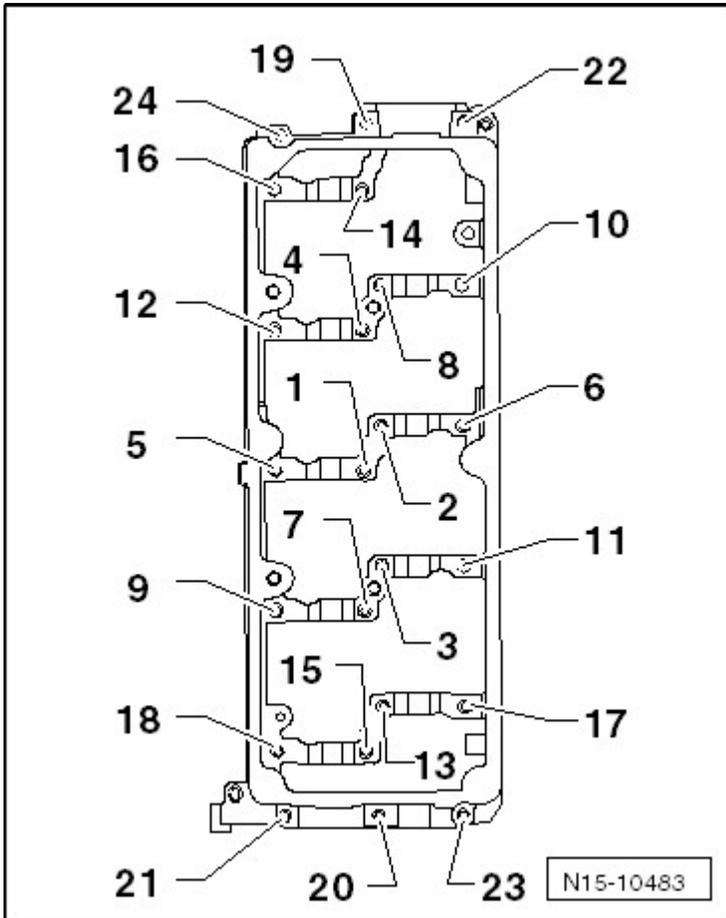

Fig. 10: Identifying Bearing Frame Bolts/Nuts Tightening Sequence
- Tightening specification and sequence **Fig. 10**
- Position the guide frame and tighten to: 10 Nm without rotating camshaft. **Fig. 10**